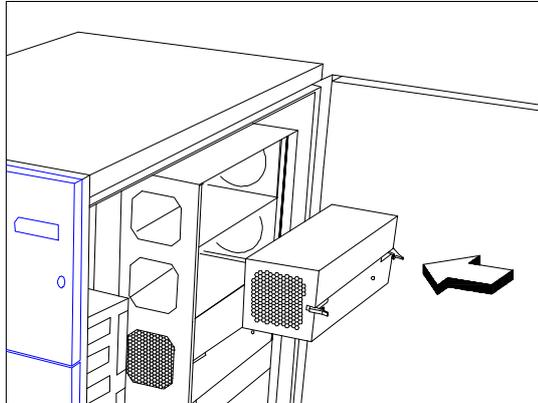

Figure 3-46 Installing a Power Supply Module
6. Firmly hold the power supply and align it with a compartment on the power supply rack. Pressing the holding clips on the sides, push back the power supply until its golden fingers completely fit into the slot on the power backplane. See Figure 3-46.